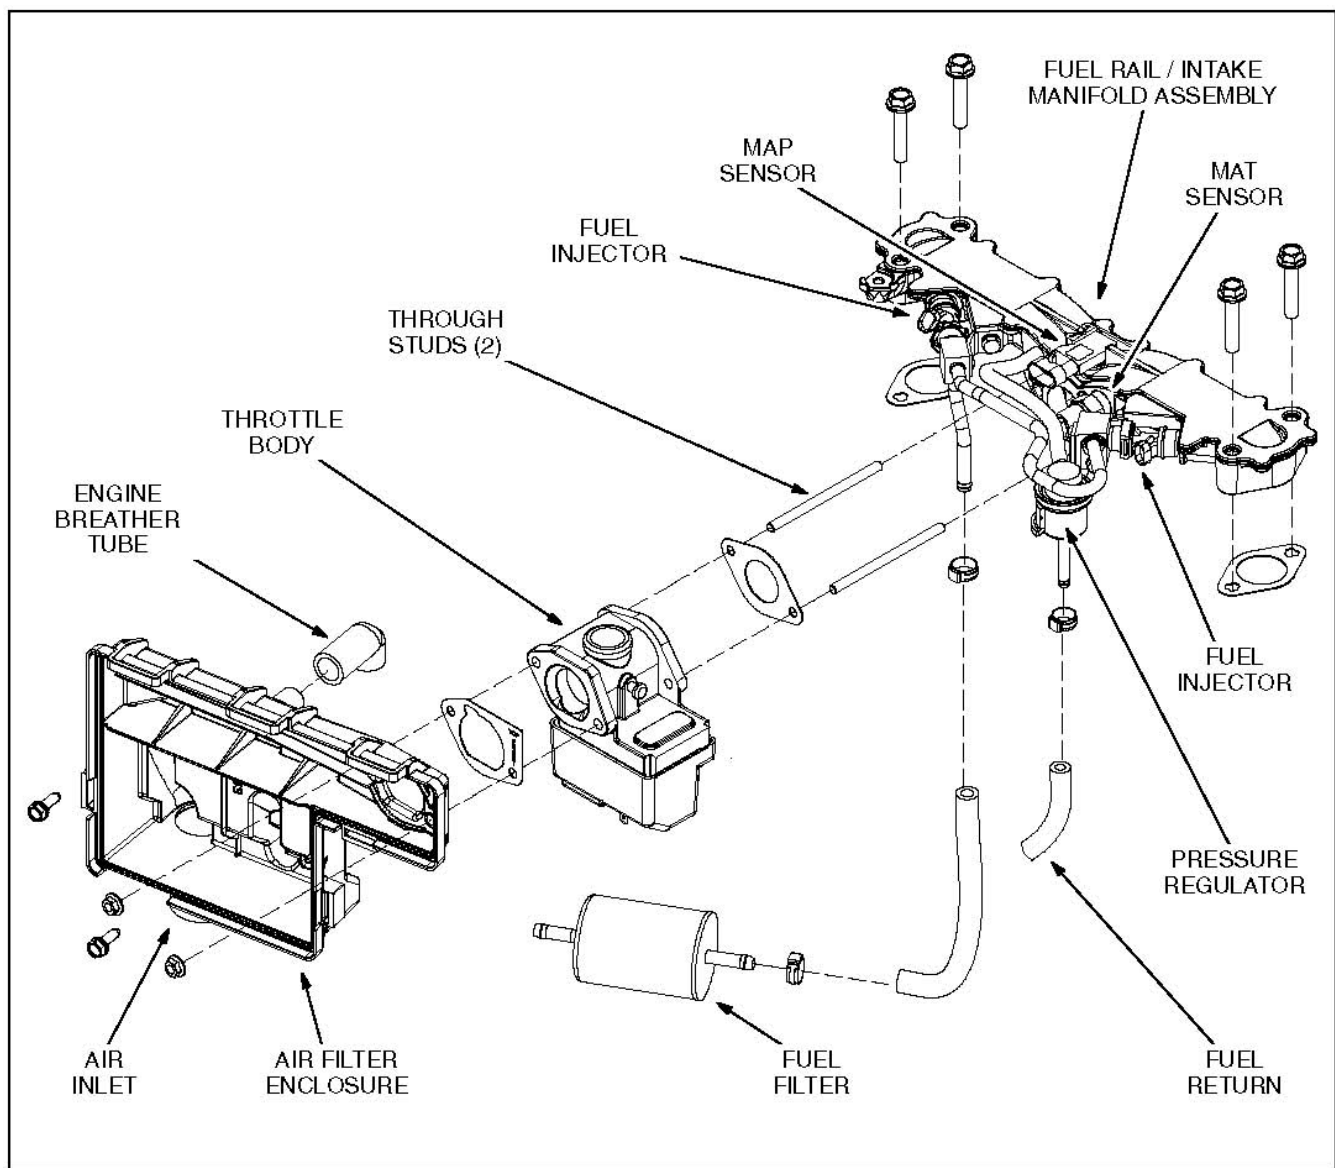

FIGURE 38. FUEL INJECTION SYSTEMS—SERIES HGJAA AND HGJAD
These generator set models are equipped with sequential multi-port fuel injection (Figure 38). A remote high-pressure fuel pump (Figure 45) supplies fuel to the generator set. The fuel pressure regulator adjusts fuel pressure based on engine intake manifold pressure. As engine load increases, fuel pressure will increase. In addition, the generator set:
The throttle body can be removed without removing the generator set enclosure. Referring to Figure 38, remove the throttle body as follows:
2. Remove the throttle body (Figure 38).